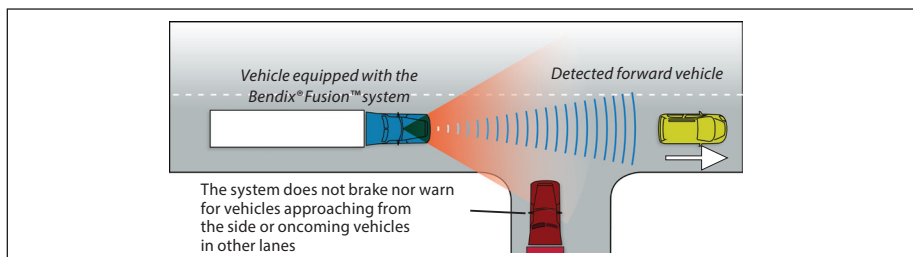

Figure 2 – Oncoming or Side-approaching Vehicles
-  The Fusion system may react **ONLY** to vehicles that the system determines are stationary or moving in the same direction as your vehicle. The system **DOES NOT** respond to side-to-side moving traffic, or oncoming traffic. The system will not slow your vehicle or provide an alert as you approach vehicles in these circumstances. *See Figure 2.*